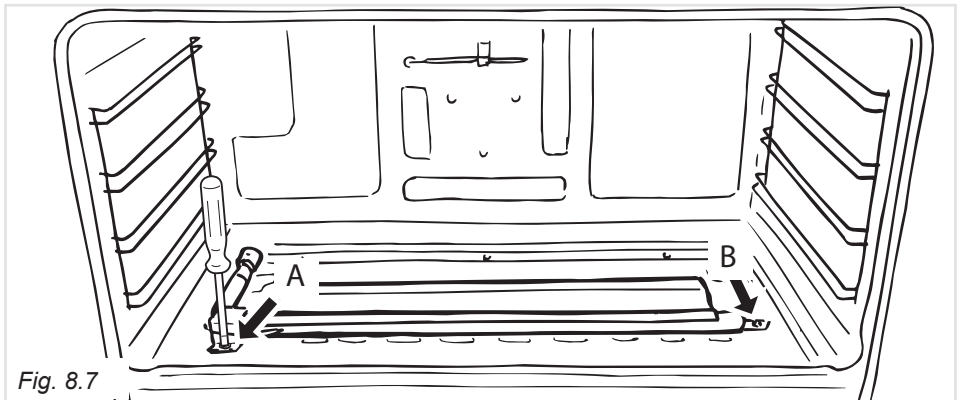

Fig. 8.7
- Unscrew and remove the burner securing screw **A** (fig. 8.7).
- Slacken screw **B** (fig. 8.7).
- Withdraw the burner in the manner shown in figure 8.7, and rest it inside the oven. Take care not to damage the wire to the ignition electrode and the safety valve probe.